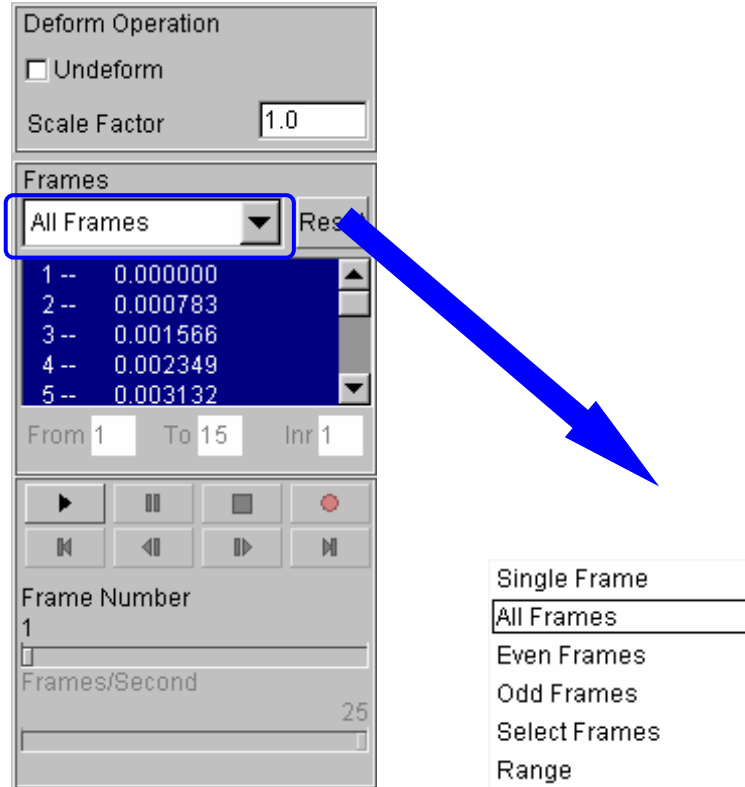

Figure 2.46 Animating deformation dialog box
1. The default **Plot State** is **Deformation**. In the **Frame** dialog, select **All Frames** and press **Play** button to animate the results. See Figure 2.46.